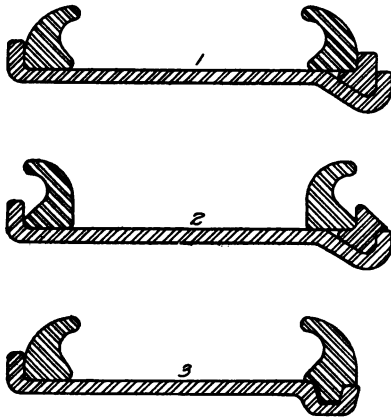
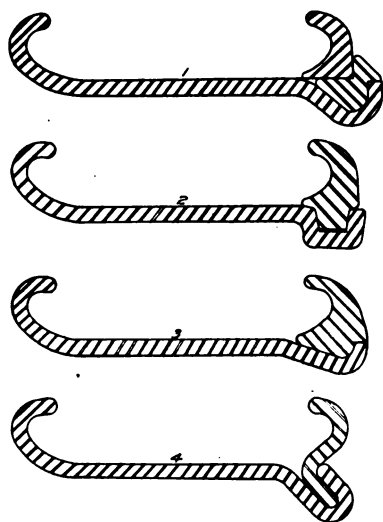
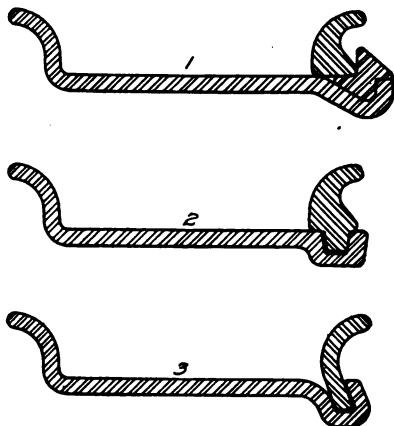
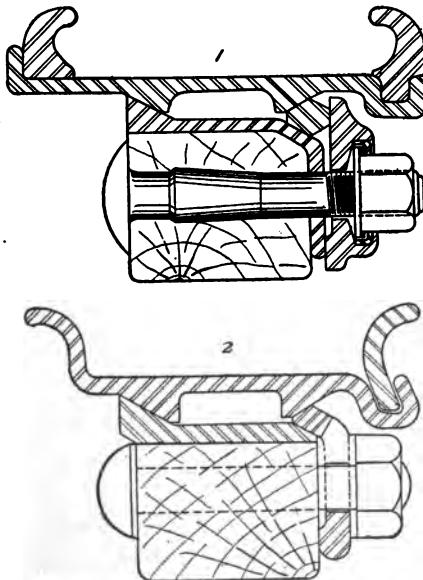

Fig. 72. Sections through Three Popular Q. D. Universal Rims
Fig. 74. Popular Forms of Q.D. Clincher Rims, Shown in Sections
Fig. 75. Three of the Most Widely Used Straight Sine Q.D. Rims
Fig. 91. Sections through Two Popular Forms of Demountable-Detachable Rims
ring and the shape of the locking ring. Both of these are called universal rims because they may be used interchangeably for straight-side and clincher types of tire. Other Q. D. Universals are shown in Fig. 72, although, in the opinion of tire men, the Universal form is slowly going out of use.
*Q. D. Clincher Forms.* To return to the plain clincher tire and the Q. D. rim, which allows of its ready removal, Fig. 74 shows four of the most prominent forms, these being indicated simply as flat sections of the rim, for the tire is the same in all cases. All these have the simple clincher edge on one side, with removable ring and locking device on the other. That at 1 has the same locking device shown at 2 in Fig. 72, the Z-shaped ring extending over the edge of the band. That at 2 is practically the same as 3 in Fig. 72. The one seen at 3
To close the subject of straight side tires, the rims of the quick-detachable form now in use aside from those already shown are seen in Fig. 75. Here these are seen to be identical with 1, 2, and 4 of Fig. 74, except that the fixed side is arranged for a straight side instead of being
*Comparison of Continuous Holding Ring Type with Local-Wedge Type.* To return to demountable-detachable rims, these may and do include a number of those quick-detachable forms previously shown and described. In Fig. 91 a pair of typical forms is shown, that at 1 being fitted for a clincher tire, while that at 2 is for a straight side. Looking at the detachable part of the rim, number 1 will be recognized as that previously shown at 3, Fig. 72, where it was described as a universal rim, the inversion of the two rings converting it from a clincher to a straight side, or *vice versa*. Similarly, 2 will be recognized as the form of detachable shown at 3 in Fig. 75.
noted is the felloe band just mentioned, while the detachable-rim portion is that previously shown at 1 in Fig. 74 as having the Z-shaped locking ring and being adapted to clincher tires only. In this instance, the rim band is made with the two wedge-shaped projections on its underside to allow for the addition of the demountable feature.